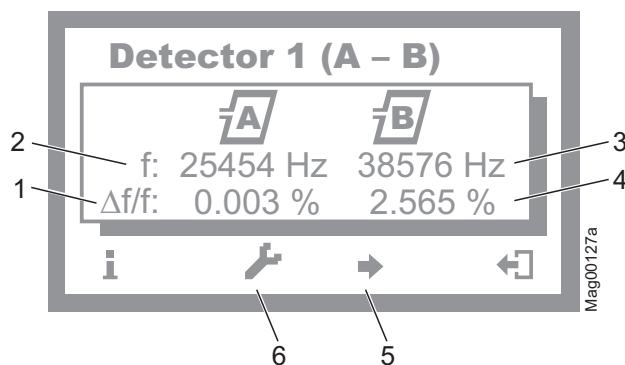

Fig. 52: Example "View – Menu Detector 1 (A-B)"
3. Press the left control button repeatedly, until the menu "Detector 1 (A-B)" is displayed. → See page 138, Fig. 52.